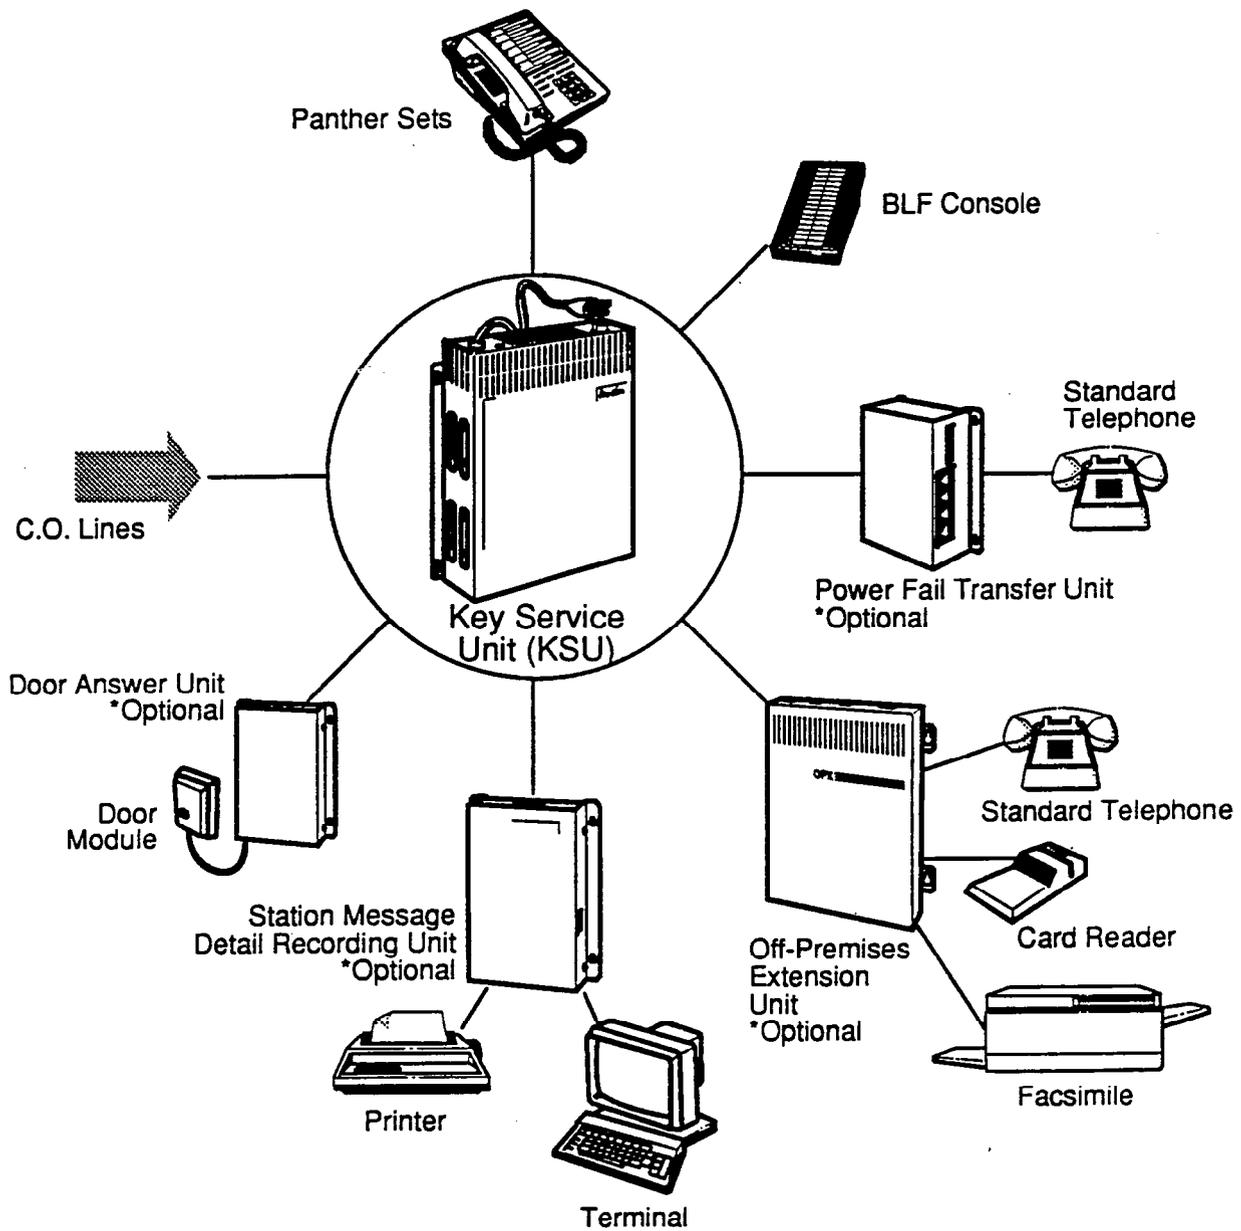

Figure 2-1 System Configuration
2.01 The Panther II 820 system is comprised of one Panther II 820 Key Service Unit (KSU). The Panther II 1032 system is comprised of one Panther II 1032 KSU, while the Panther II 2064 system consists of two KSUs: a Panther II 1032 KSU and a Panther II 2064 KSU. Each system can be enhanced by the addition of a number of optional ancillary devices. See Figure 2-1. The Panther II systems are designed for easy migration, meaning that systems can be easily expanded to accommodate more lines/stations, while the original station configuration and equipment remains intact. Each system can be used in a stand-alone mode, behind a Private Branch Exchange (PBX) or with Centrex.